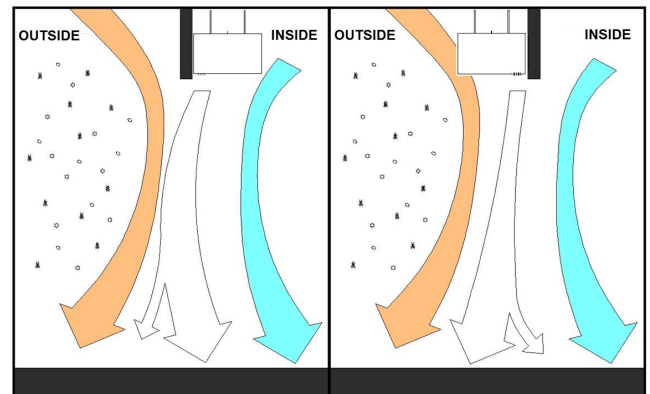

FIG. 4
- Regardless of whether the product is mounted on the inside or outside of the door opening, set the air directional vanes in the discharge nozzle slightly outward to approximately 10-15° towards the outside, or the wind load. (FIG. 4).